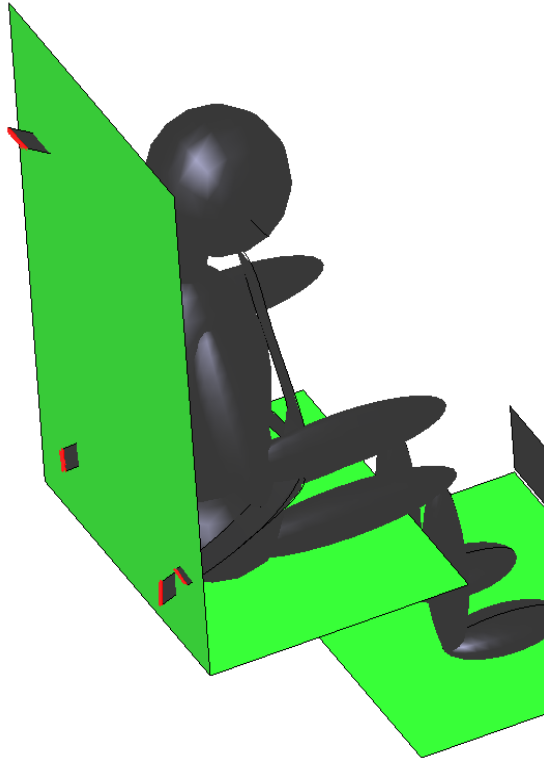

Figure 5. Seat lines selection
9. To include seatbelt to this prescribed motion, please go to **Data->Groups** in GiD menu and select the group created in the last step from the list. Click *Send entities to group*  to add seatbelt fixation lines (Figure 5). Press ESC after selection. Click *finish* and close groups editor.